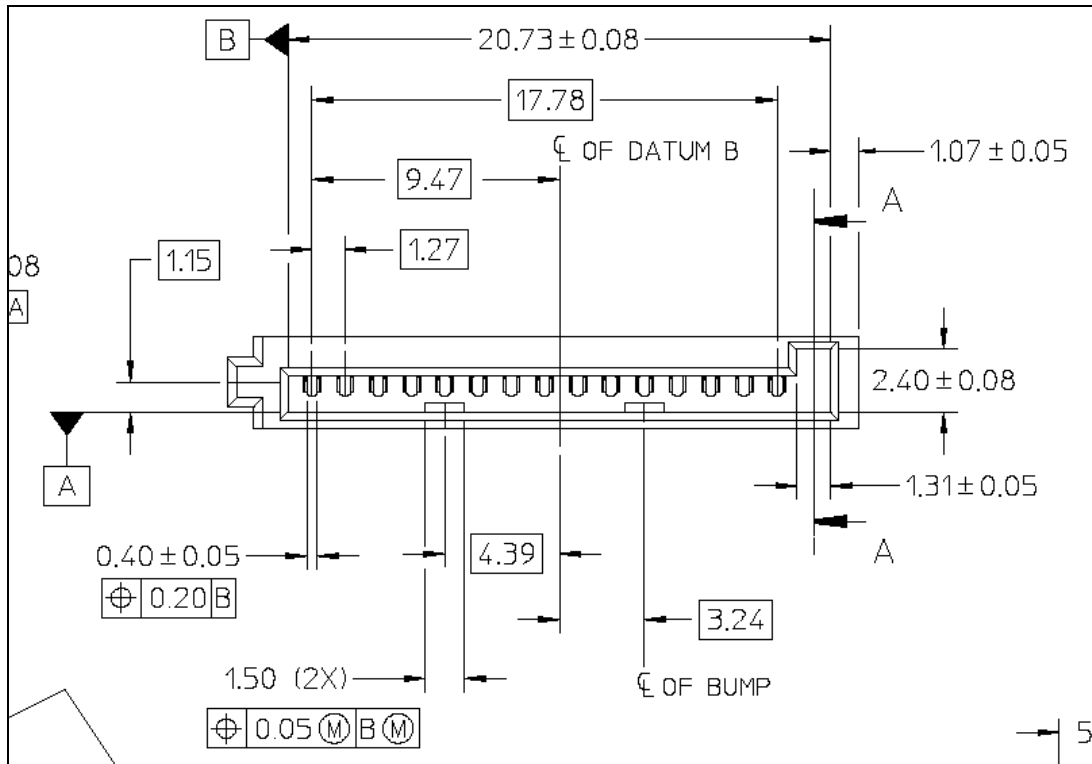

Figure 38 – Front View
2.4 Figure 38 – Power receptacle connector interface dimensions